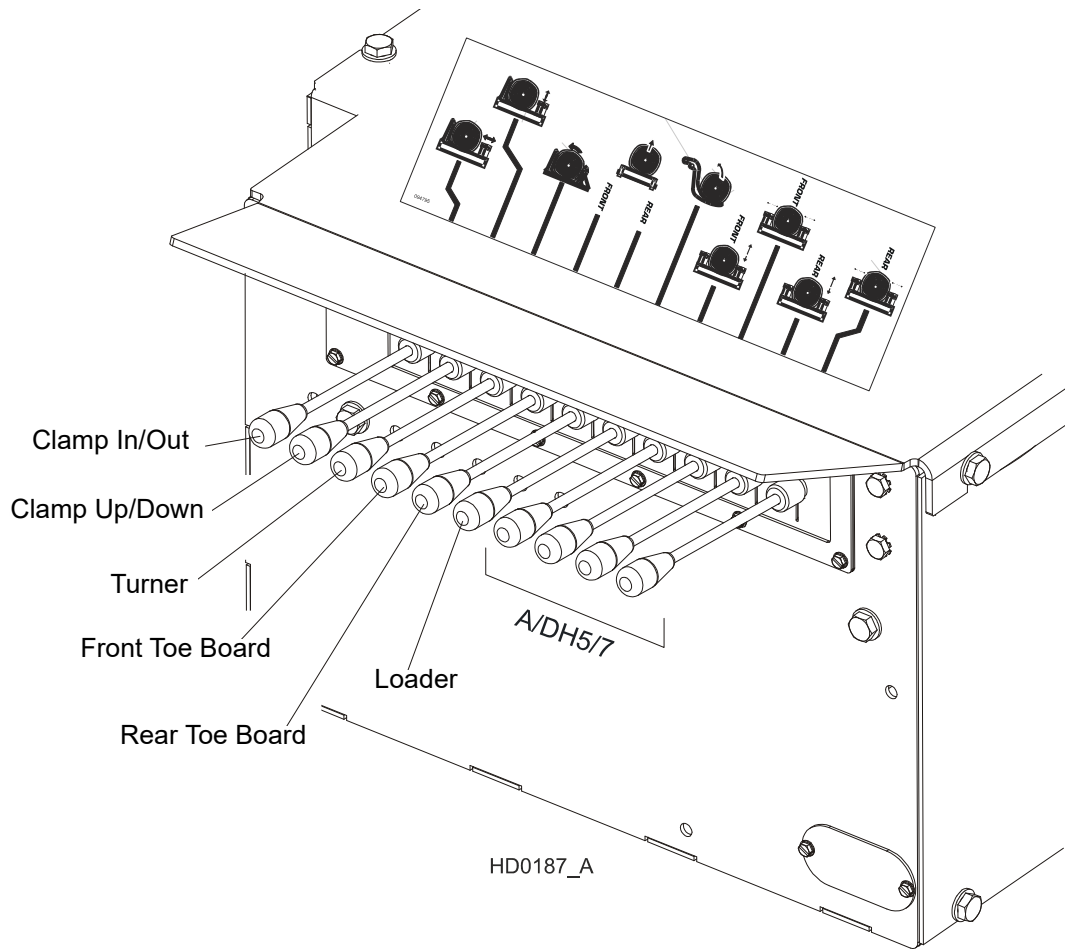

FIG. 2-19.
**See Figure 2-19.** A/DH3 hydraulic units have six control levers to load, clamp, turn and level logs. A/DH5 and A/DH7 hydraulic units have four additional levers for controlling the Pull-Down clamps. In sawmills equipped with A/DH5 hydraulic system, individual Pull-Down clamps are controlled with separate levers. In sawmills with A/DH7 hydraulic system, in/out movement of individual clamps is controlled with the same lever and up/down movement of individual clamps is controlled with